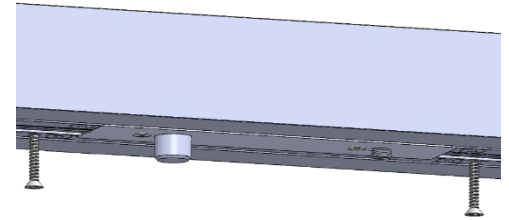

Figure 6:
3. Secure Top pivot to header with #10 screw min. 4" long (not by Fleetwood). See Figure 6 for illustration.